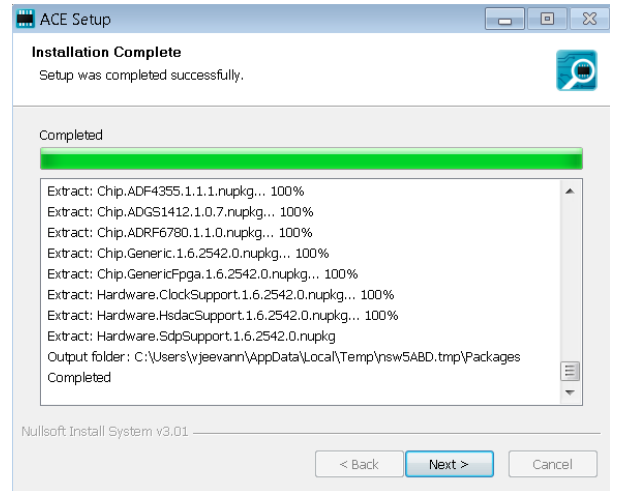

Figure 8. Installation Complete
- When the installation is complete, click **Next >** (see Figure 8), and then click **Finish** to complete the installation process.